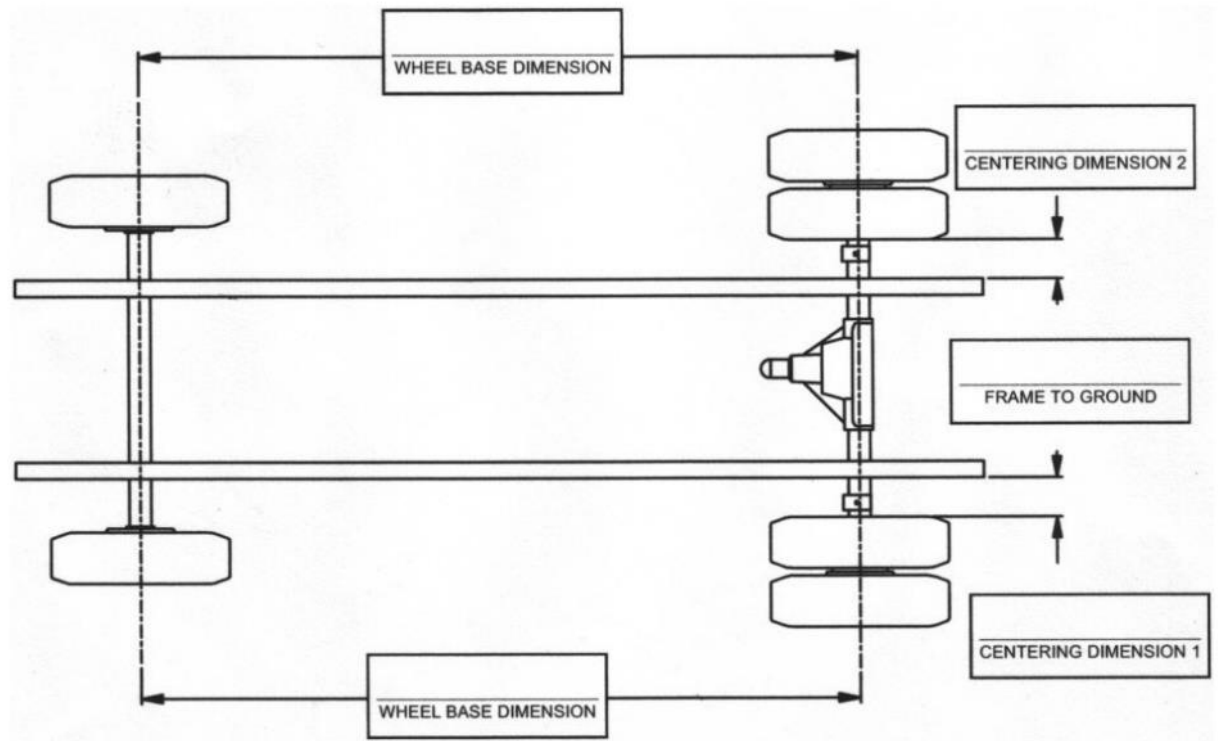

Figure 2
- 3:** Take the following measurements for future reference. You will need to refer to these measurements to adjust the suspension system. See figure 2 below.